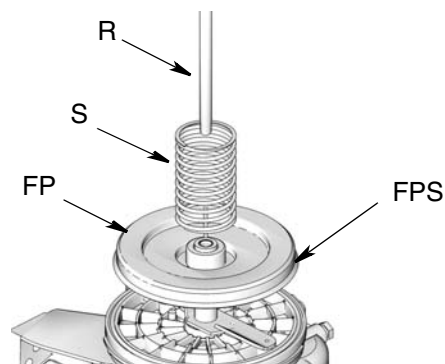

FIG. 3
1. Verify the following parts were removed with reservoir (FIG. 3):
- Spring (S)
- Follower Plate (FP)
- Rod (R)